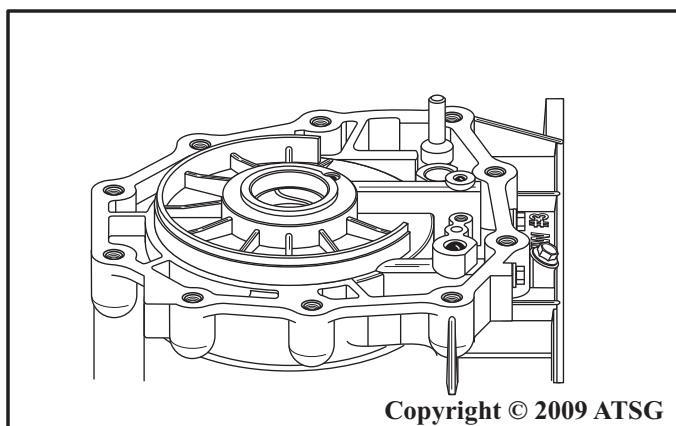

Figure 207
39. Rotate the transmission so that rear of case is facing up, as shown in Figure 207, in order to install the rear case components that are shown in Figure 208.